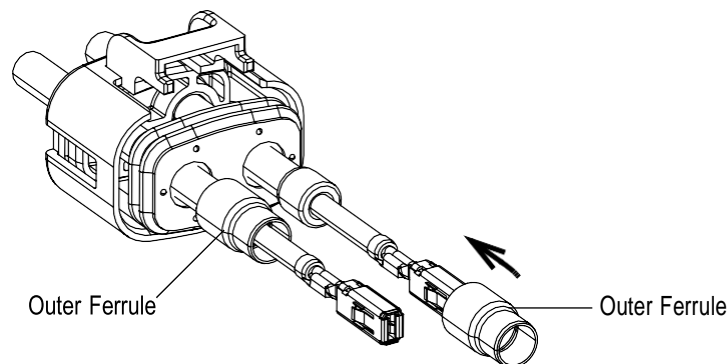

Figure 10
8. Insert an outer ferrule onto each cable in the orientation shown and over the inner ferrule and folded back braided cable shield. See Figure 10.